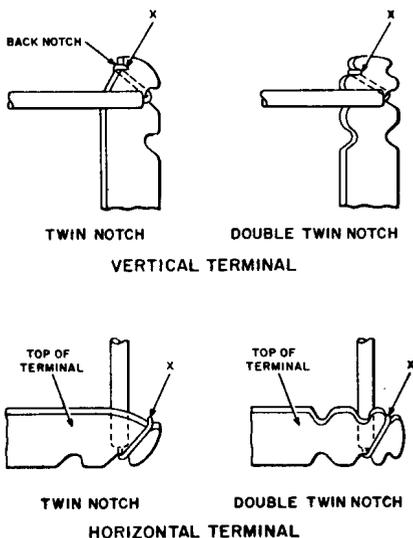

FIGURE 17. Termination of Wire on Terminal with a Twin Notch or Double Twin Notch
- 6.12 To terminate wires on a terminal strip where the terminals have twin notches or double twin notches and only one set of leads is required, connect them in the outer notches unless it is necessary to reserve these notches for strapping, subject to change in service. The jumpers should be terminated as described in paragraphs 6.10 and 6.11 and as shown in Figure 17.